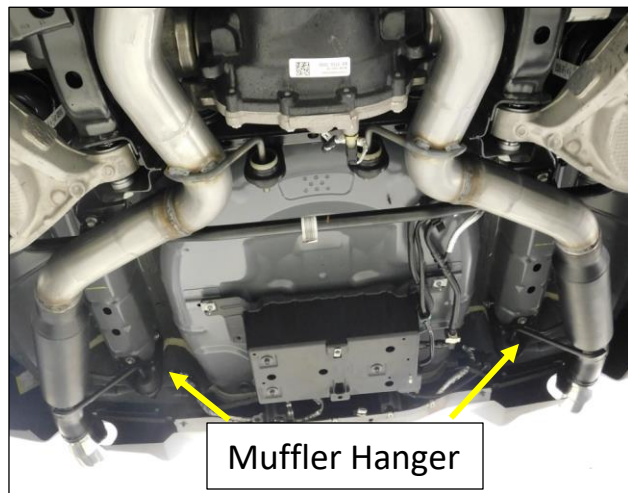

Figure 9
6. Install the OEM muffler hanger assembly onto the Flowmaster muffler hanger rod, rotate into position and clip the tab into the frame rail. Install the (x2) mounting bolts (**Fig. 9**).